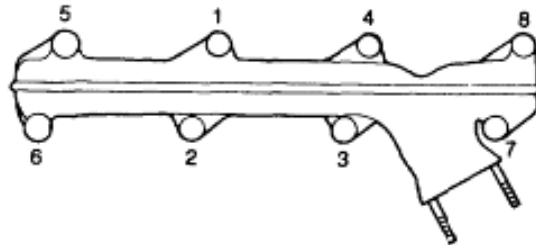

Figure 8 Exhaust Manifold Tightening Sequence
- e. Tighten the manifold retaining nuts and bolts to 16–25 N.m (12–19 lbf.ft) using the tightening sequence as shown in Figure 8.